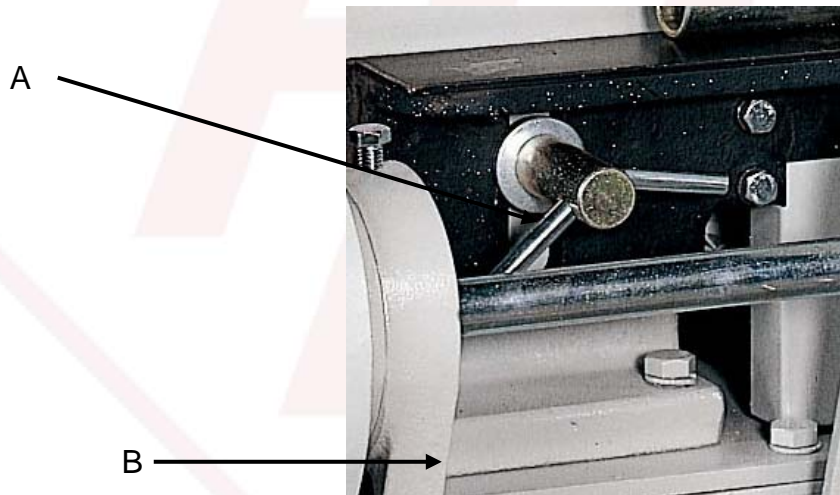

Fig 1
- (1) Press the rod of sand belt in the direction of clockwise 【Fig 1-A】 and then you can change the sand belt. After that, move the adjusting rod back. Note: After the start of machine, keep away from lifting up the adjusting rod to prevent danger.
- (2) Adjust the screw 【Fig 1-B】 for pulling out-in the sand belt. The sand belt should be aimed at the center of wheel.